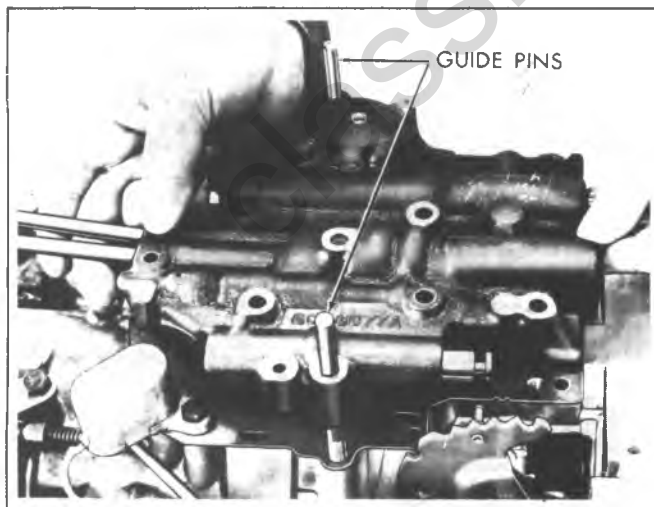

Fig. 7A-184C--Installing Control Valve Assembly and Governor Pipes
3. Install control valve assembly and governor pipes on transmission, while carefully aligning the governor feed pipe over the governor screen (Fig. 7A-184C). Make certain gasket and spacer do not become mispositioned.